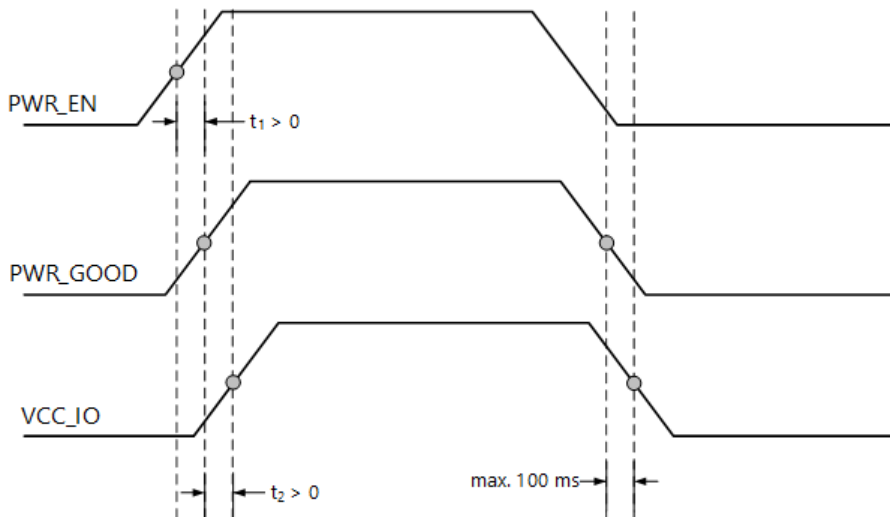

Figure 13: Power-Up Sequence - VCC_IO in Relation with PWR_GOOD and PWR_EN Signals
Figure 13 illustrates the requirements of the V_IO power sequence. Do not power the V_IO pins when PWR_GOOD and PWR_EN signals are not active. If the module is not powered, make sure that the V_IO voltages are disabled, for example, by using a switch that uses PWR_GOOD as enable signal on the base board.
- Follow the power sequence diagram shown in Figure 13. This ensures that the I/Os are tri-stated at power-on and power-off.